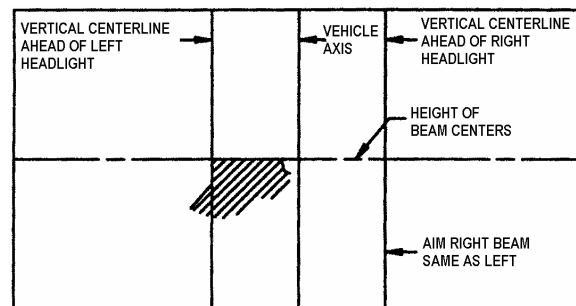

FIGURE 48: HIGH-INTENSITY ZONE (SHADED AREA) OF A PROPERLY AIMED LOWER BEAM ON THE AIMING SCREEN 7.6 M (25 FT) IN FRONT OF VEHICLE
6. Low beam headlights are aimed so that the top edge (the cutoff) of the high-intensity zone is at the vertical location as per Table 1 and the left edge of the high-intensity zone is at the vertical centerline of the headlight (Figure 48).